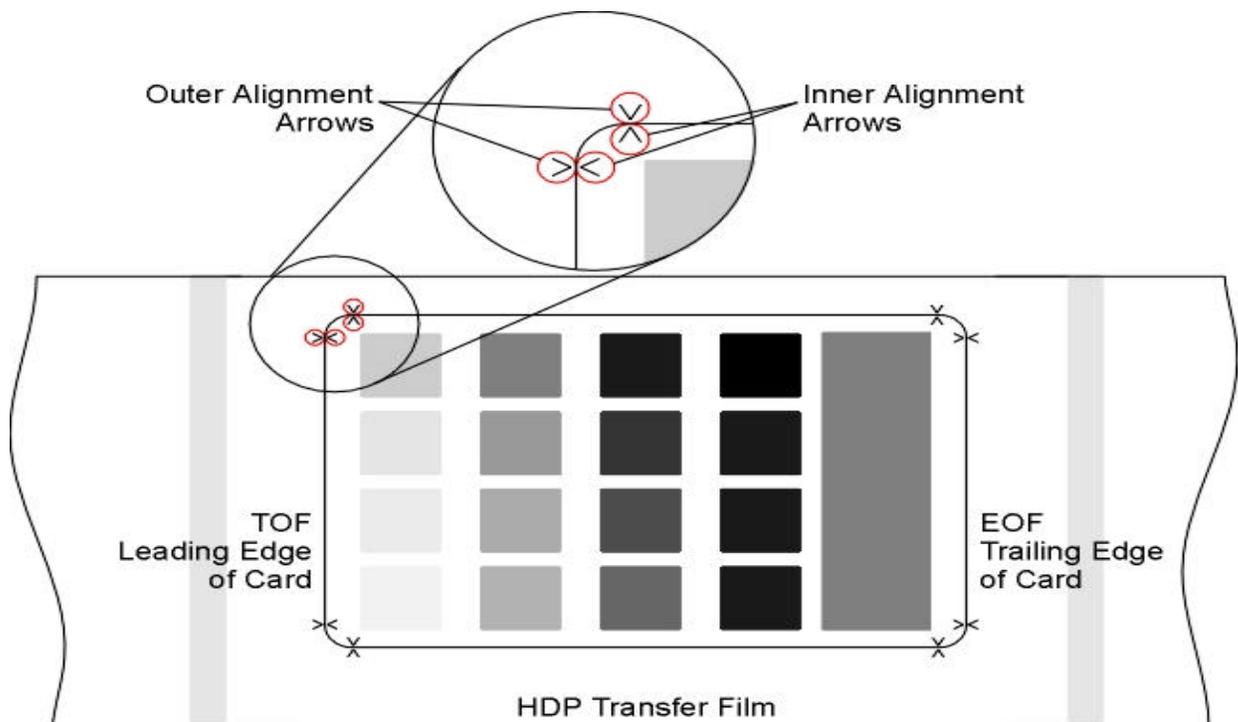

Figure 7-10
Refer to Figure 7-10.
8. Repeat steps 1 to 7 until the test image is correctly positioned or ribbon wrinkle is alleviated. Refer to Figure 7-10.